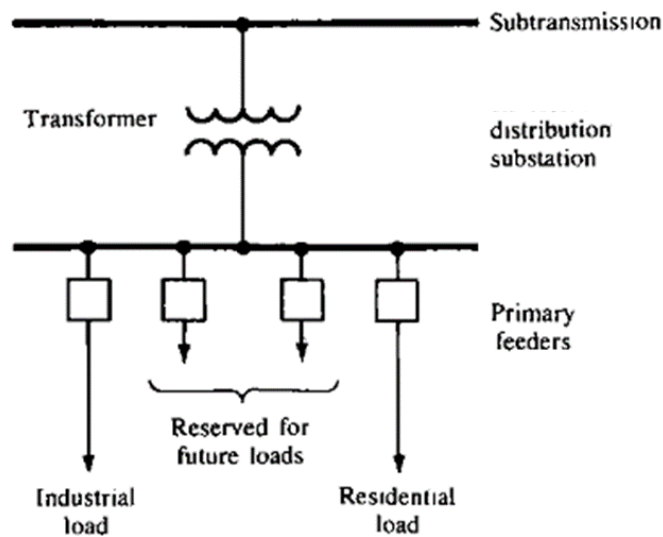

Figure 1.1
1. (a) A distribution transformer supplies power to industrial and residential loads as shown in Figure 1.1. Table 1.1 shows the daily load data of the primary feeders. Determine the following: